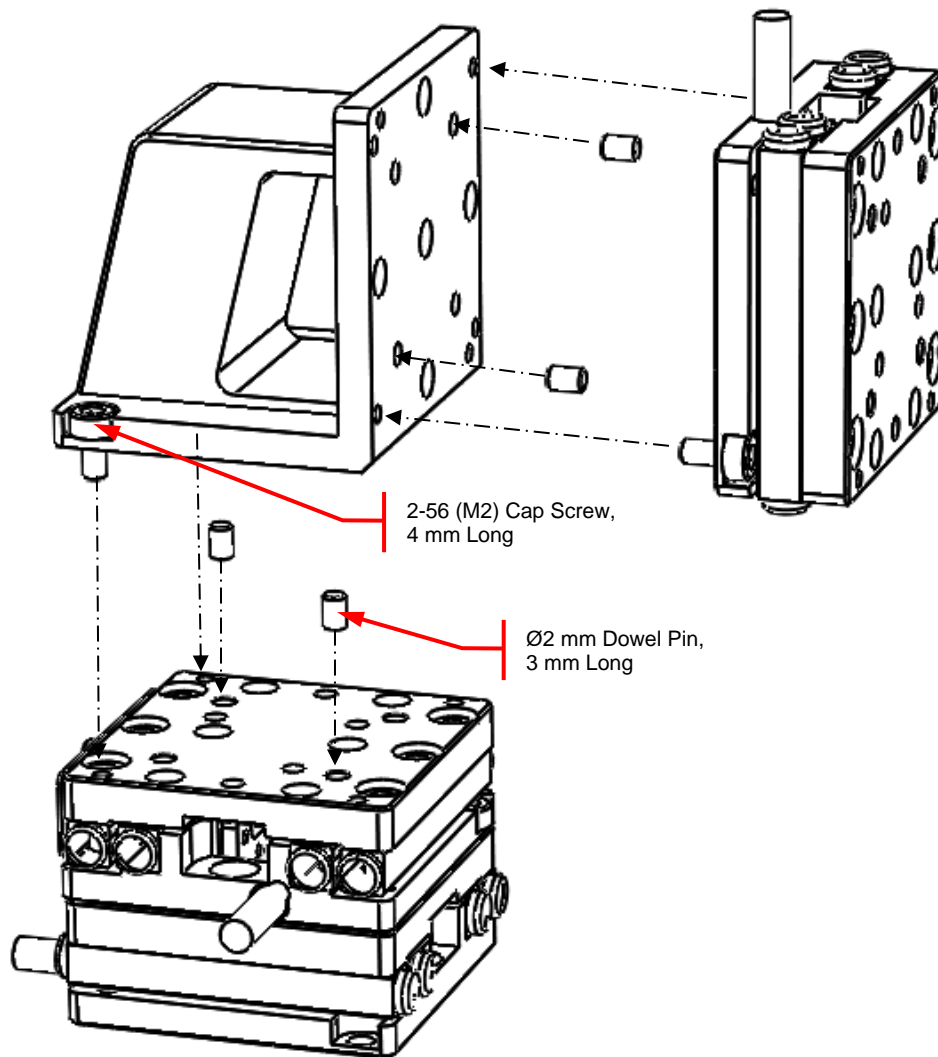

Figure 6 Setting Up an XYZ Configuration
6. Insert two 2-56 (M2), 4 mm long cap screws through the Z stage to the vertical plane, as shown in Figure 6. Alternatively, two 8-32 (M4), 6mm long cap screws can also be used to mount the Z stage to the vertical plane.